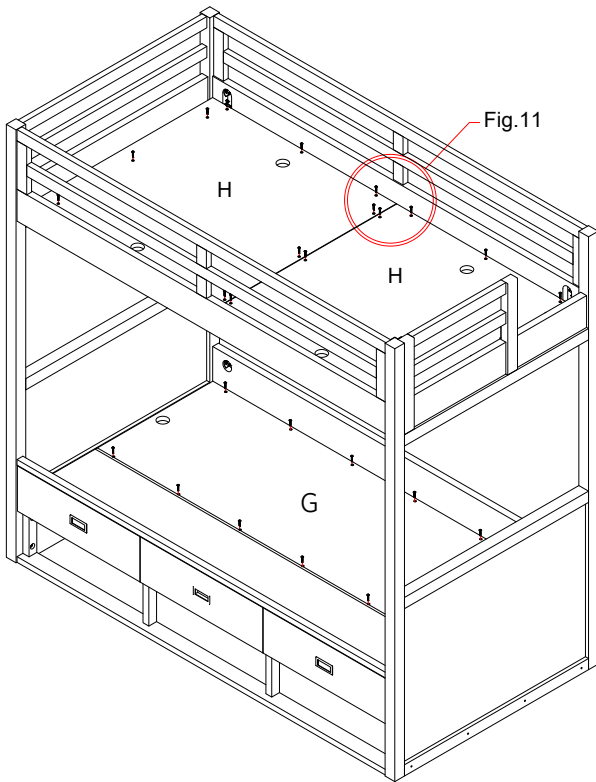

FIGURE 11
11. Place the platform panels (G, H) on the lower bunk and the upper bunk, then fix them with screws (10). See FIGURE 11.